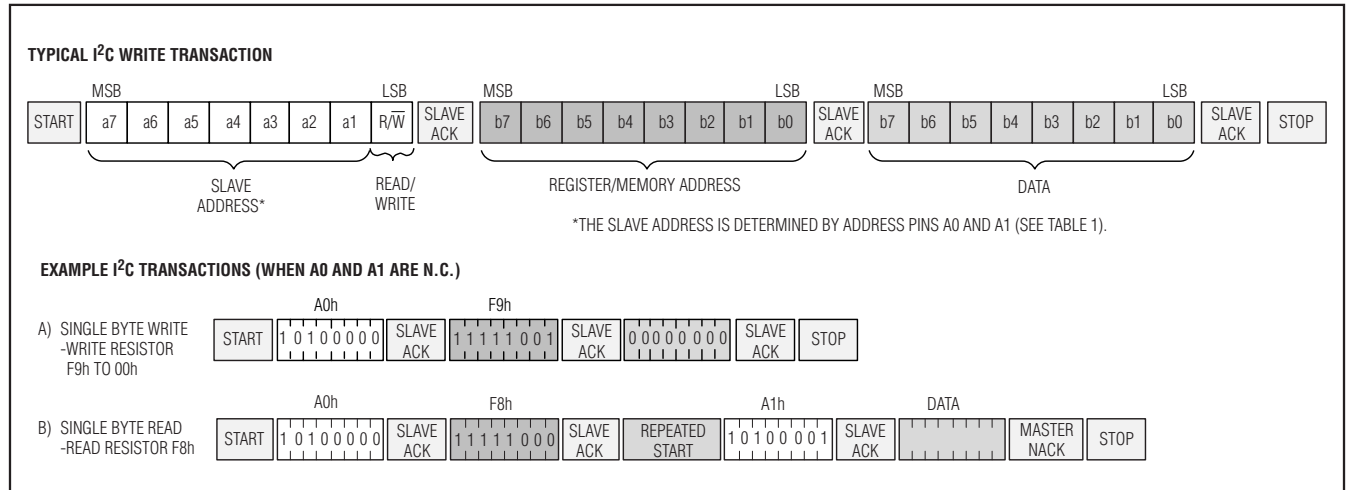

Figure 4. I2C Communication Examples
**Acknowledgement (ACK and NACK):** An Acknowledgement (ACK) or Not Acknowledge (NACK) is always the ninth bit transmitted during a byte transfer. The device receiving data (the master during a read or the slave during a write operation) performs an ACK by transmitting a zero during the ninth bit. A device performs a NACK by transmitting a one during the ninth bit. Timing for the ACK and NACK is identical to all other bit writes (Figure 4). An ACK is the acknowledgment that the device is properly receiving data. A NACK is used to terminate a read sequence or as an indication that the device is not receiving data.